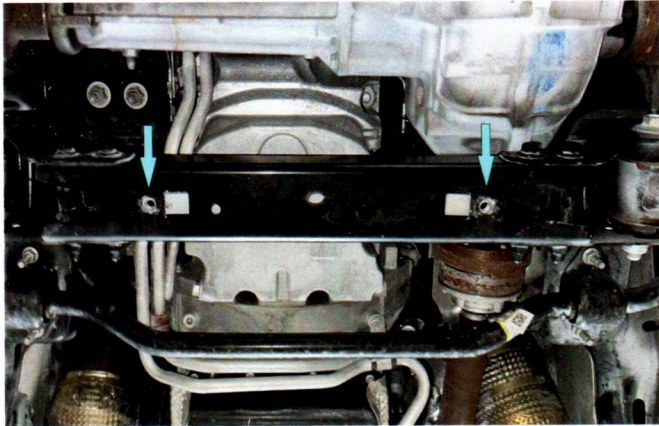

Fig. 1
1. Remove factory nuts and install insert nuts M10 (item A) as shown in fig.1.